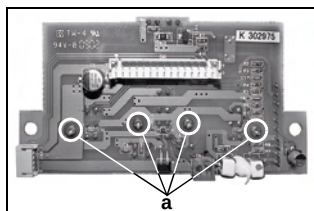

Figure 3-9 Lower Sensor Board Cover Removal
13. Remove the Lower Sensor Board Cover by removing four (4) circuit board retaining screws (See Figure 3-9 a).